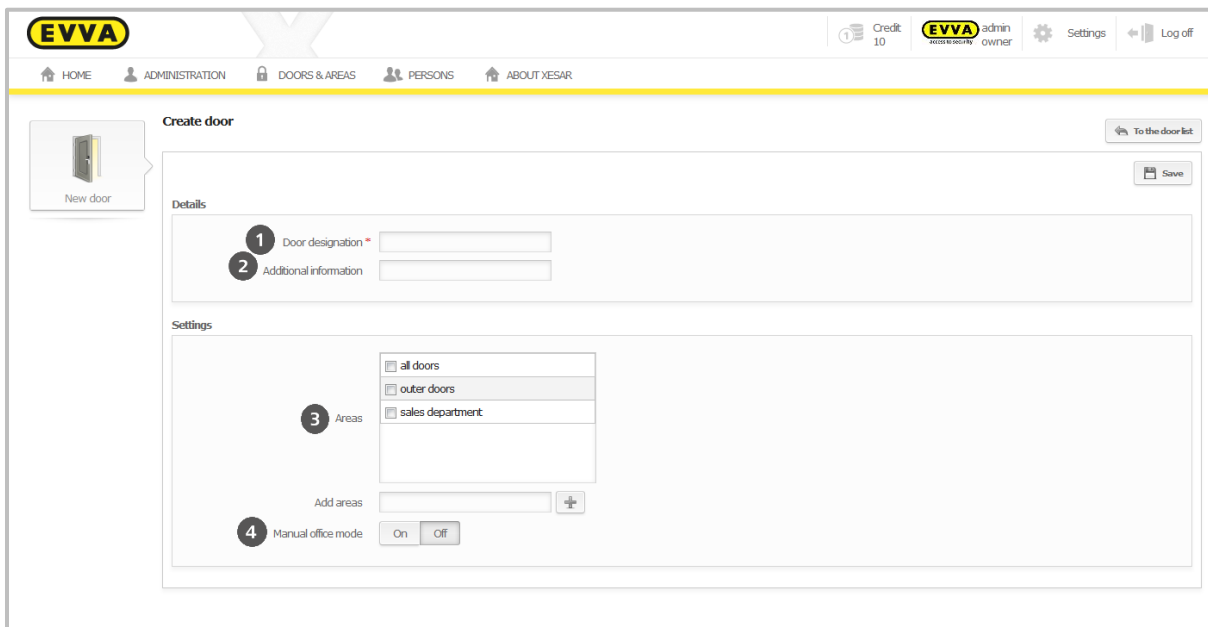

Figure 74: Creating doors
When you create doors it is important to enter a unique **Door designation** ❶ (mandatory field) to safeguard the doors in the software can be assigned to the doors within the facility, e.g. Main entrance. There is also the **Additional information** field ❷ (optional field) intended for additional door information, e.g. the room number (Figure 74: Creating doors).
Select the areas to which you would like to add doors in the **Areas** field ③ . You can also create additional areas in this section (Figure 74: Creating doors).